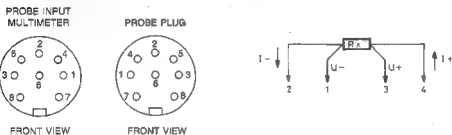

Fig. 15. Connection of the PROBE input for  $\Omega 4W$  measurements.
- In the  $\Omega 4W$  function the 4-wire test lead can be used. For connector data, see fig. 15.